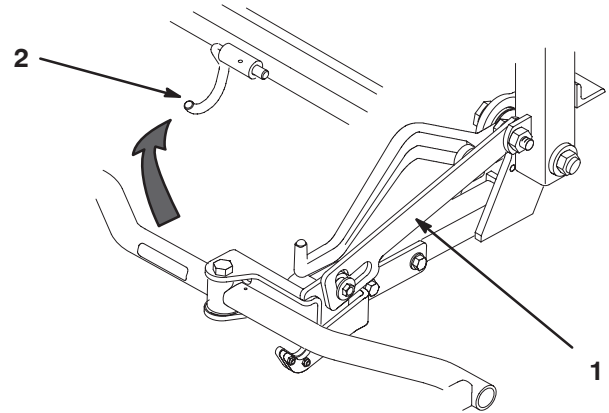

Figure 17
C. Lift up on the slotted link and rotate the pull frame into the wire hook (Fig. 17).